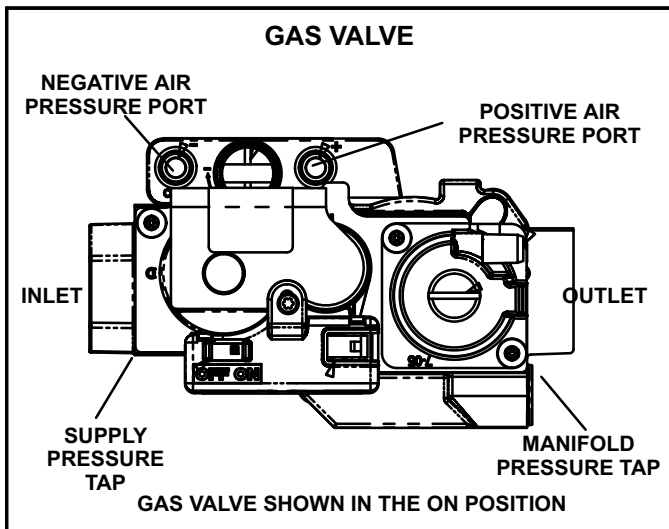

FIGURE 17
The valve (figure 17) is internally redundant to assure safety shut-off. If the gas valve must be replaced, the same type valve must be used.
- 6 - Turn switch on gas valve to **OFF**. Do not force. See figure 17.
- 8 - Move switch on gas valve to **ON**. Do not force. See figure 17.
A port on the inlet side of the gas valve provides access to the supply pressure tap. See figure 17. Loosen the screw and connect a manometer to measure supply pressure. *The minimum supply line pressure is 4.5" - 13.0"w.c. For natural and 11.0 - 13.0" wc for LP/Propane. Tighten after measurements have been taken.*
- 2 - Remove the threaded plug from the outlet side of the gas valve and install a field-provided barbed fitting. Connect measuring device positive "+" to barbed fitting to measure manifold pressure. See figure 17 for manifold location.